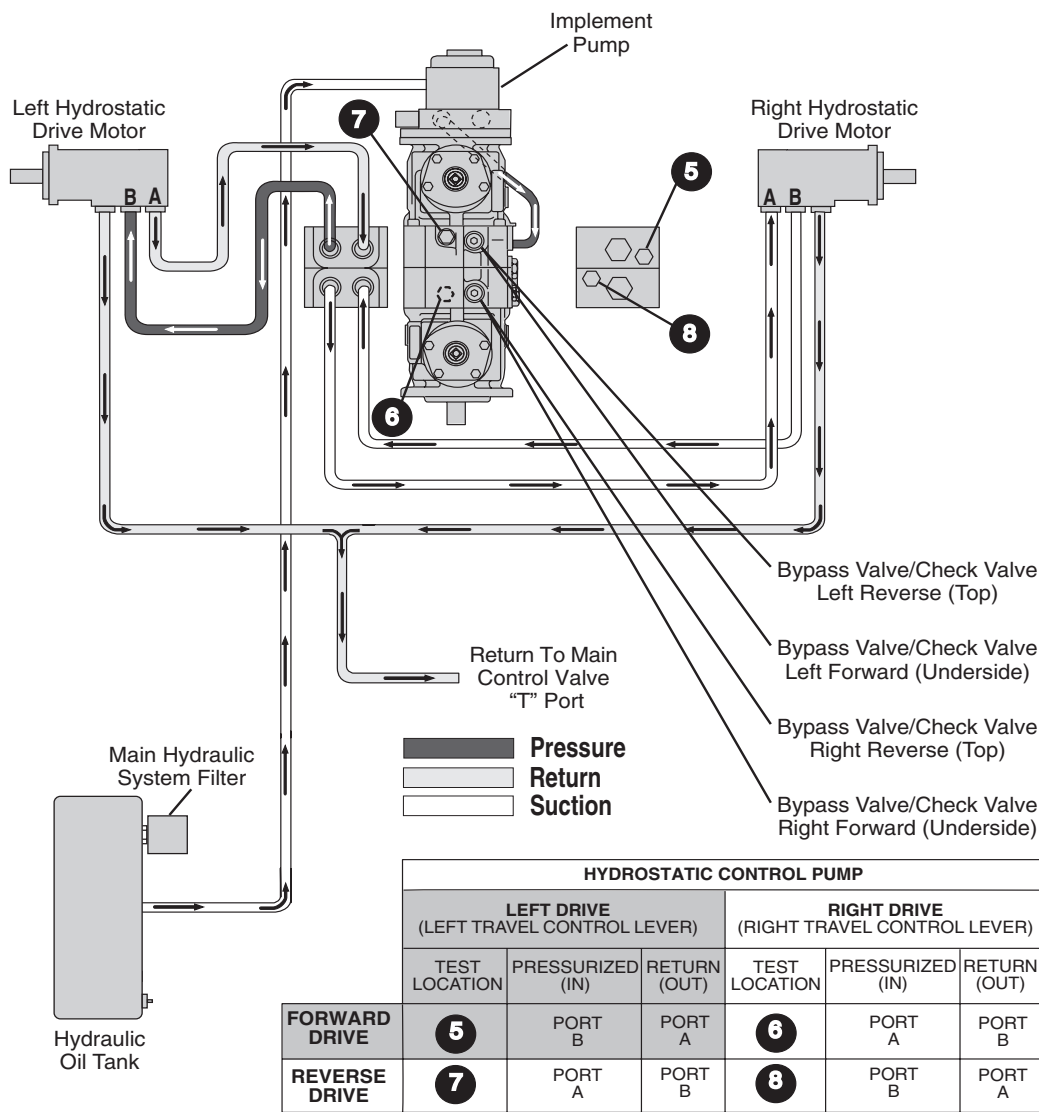

Figure 3-15 Model 1750D Hydrostatic Control Pump Drive Relief Tests
4. Hydrostatic Control Pump drive relief tests (Refer to Section 3.4.5, Fig. 3-15)